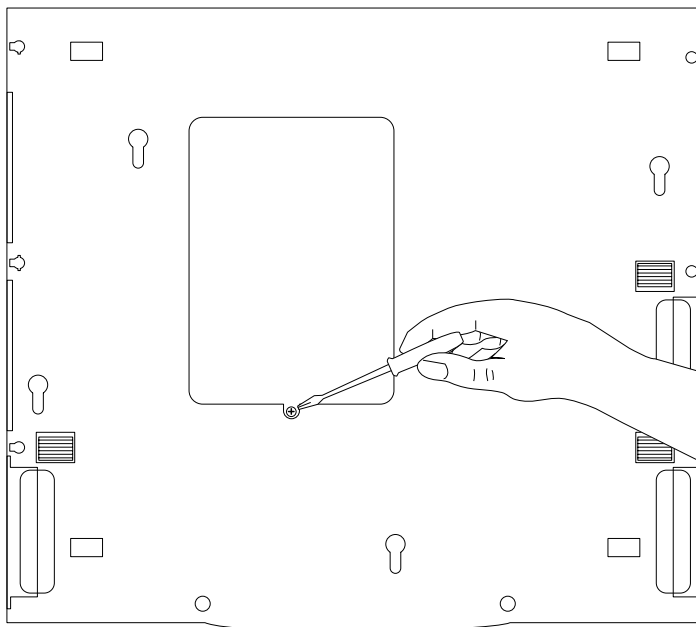

Figure 3-9 Removing the Memory Cover
4. Using a small Phillips screwdriver, remove the memory access cover as shown in Figure 3-9.